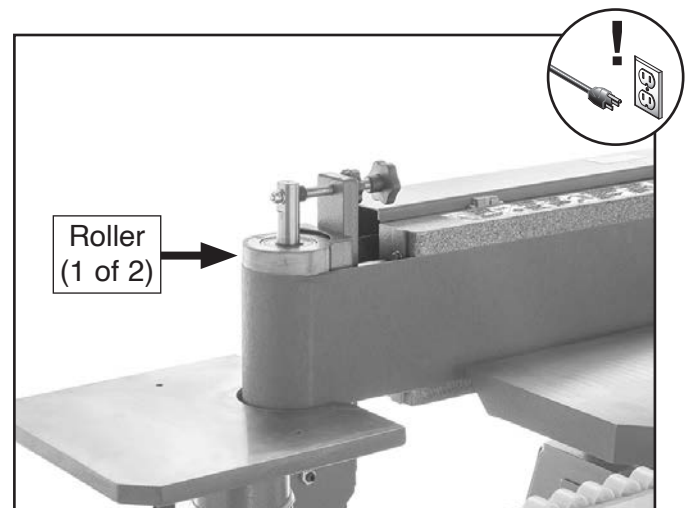

Figure 40. Location of rollers.
2. Standing in front of sander, manually turn drive roller counterclockwise to move sanding belt in direction of operation (counterclockwise on rollers, as viewed from above), then watch how belt tracks on rollers (see **Figure 40**).